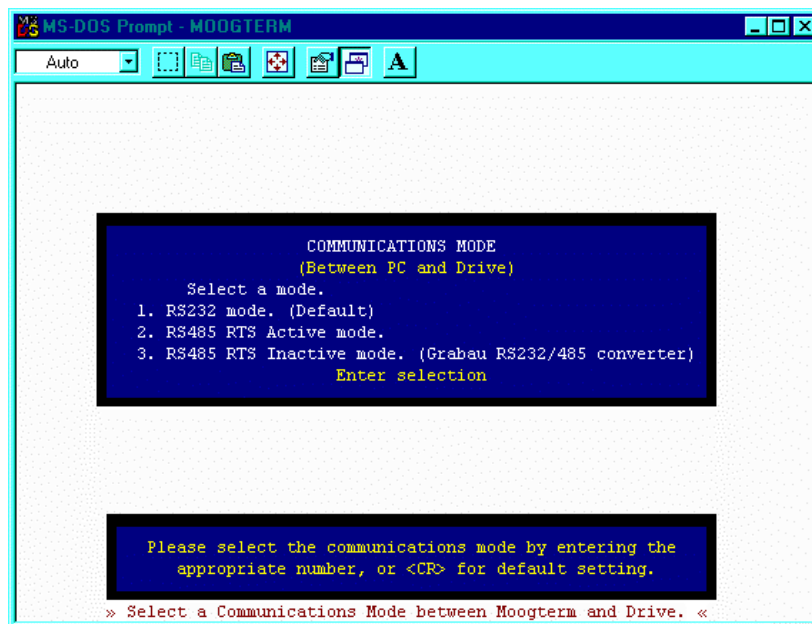

FIGURE 4.58 Communications Mode Screen
- ❑ In the **Communications Mode** screen enter the number corresponding to the RS mode of communication (FIGURE 4.58).